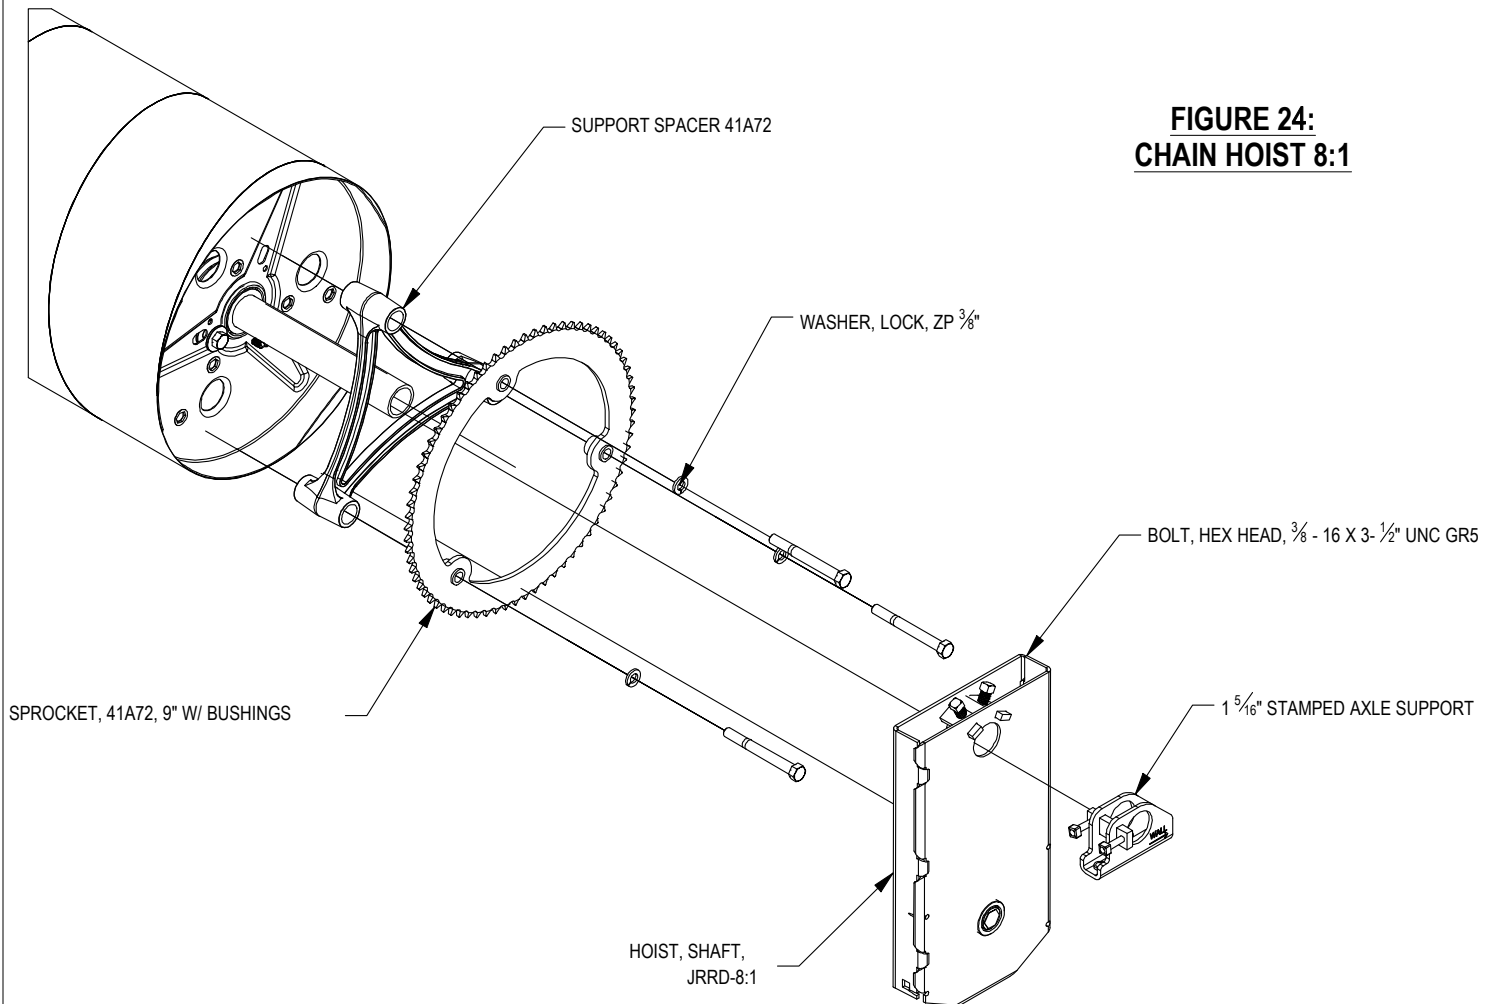

FIGURE 24:
- *For electrically operated doors, lower bottom bar and install step plate using (2) 1/4" - 20 x 1/2" carriage bolts & (2) 1/4" - 20 serrated flange hex nuts. **See Figure 24. (OMIT SLIDE LOCK)**